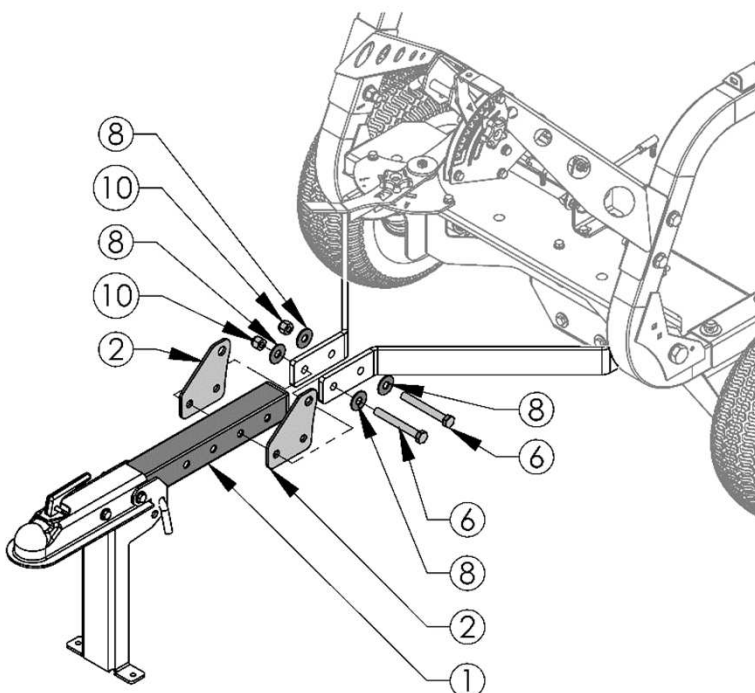
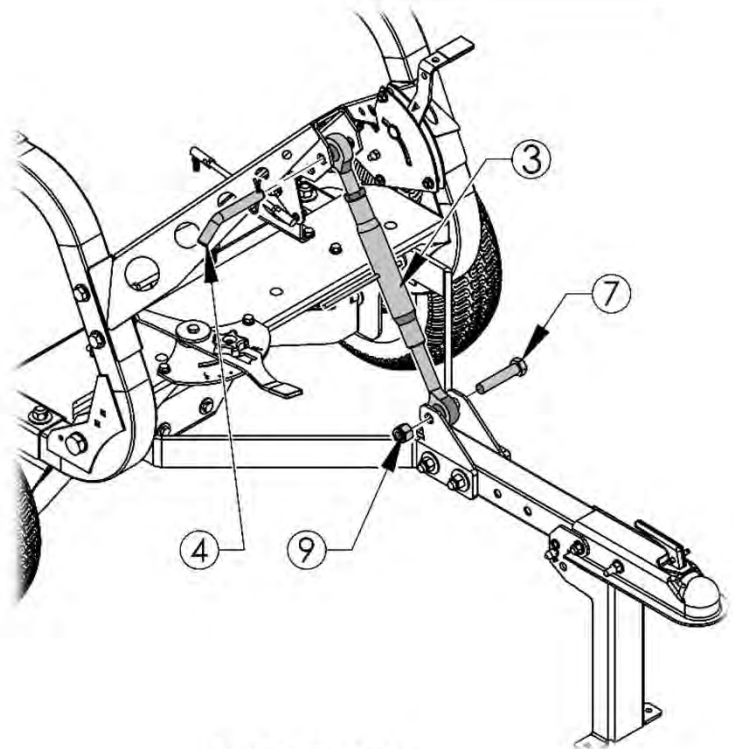

FIGURE 10.3
FIGURE 10.2
5. Place the Hitch Bar (1) in between the Top Link Brackets (2) and Hitch arms as Shown in **FIGURE 10.2**. The Plates (2) go in between the hitch arms and the Hitch Tube. See **FIGURE 10.3** for an assembled hitch image if needed.
6. Next using one 5/8"-11 Bolt (7) & one 5/8"-11 Nylon Lock Nut (9), assemble the bottom section of the top link (3) between the top link Brackets previously installed per **Figure 10.2**. Tighten until at least one thread protrudes from the backside of the Nylon Nut.
7. Lastly connect the Top Link to the top of the Spreader Frame using the Removable 1/2" Pin (4) and hair pin.